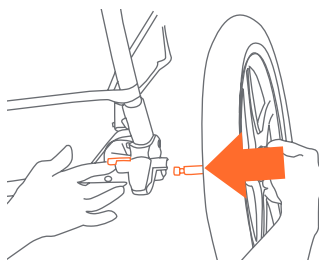

Fig. 6
- Lean the stroller forward to rest on the front wheel. To attach the rear wheels, push each wheel's axle into the plastic corner fitting (Fig. 6). Depress the metal lever on the inside of the corner fitting as you push the axle into corner fitting. When the wheel will not go on any farther, release the lever.